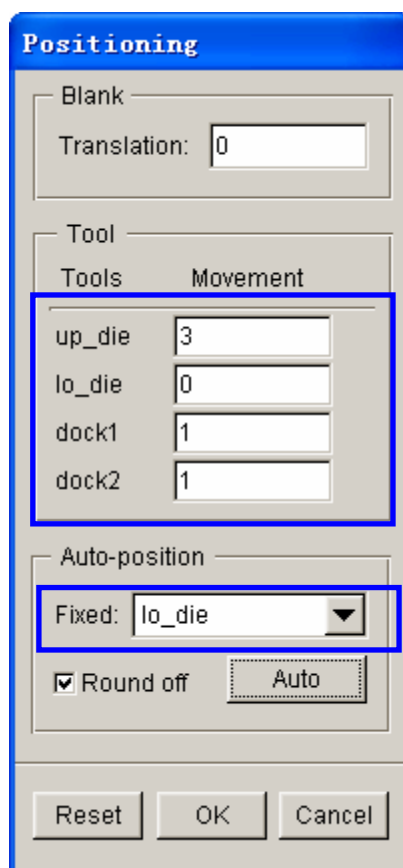

Figure 3.29 After tools auto positioning
4. Then, click **Auto** button to position all tools and tube automatically. The result is illustrated in Figure 3.29.